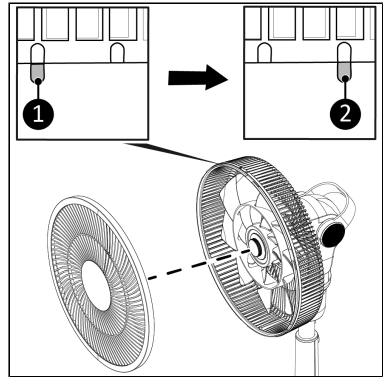

Figure 27.
11. Place the front grille onto the fan. Align the marking on the front grille with the left marking on the rear grille (Figure 27, pos. 1).
12. Turn the front grille clockwise until the marking on the front grille aligns with the right marking on the rear grille (Figure 27, pos. 2).